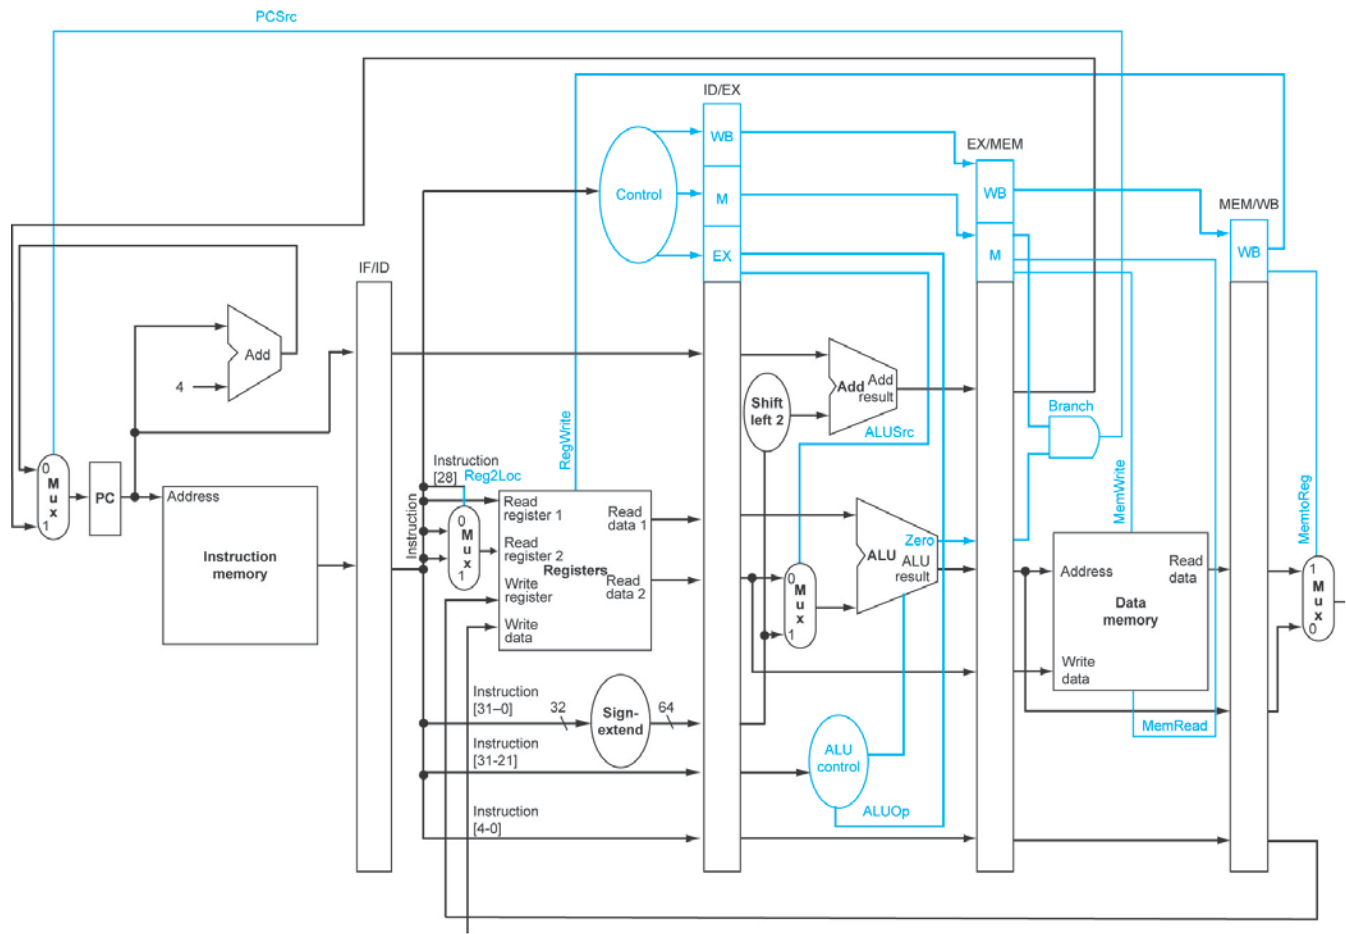

Figure 1. Five-stage Pipeline LEV8 (from textbook).
LEGLite-Pipe is pipelined version of LEGLite-Single, as described in Homework 6. It has five pipeline stages just as the pipelined LEGv8 in Chapter 4 in the textbook as shown in Figure 1. This project is to design this computer using verilog and to implement it in an FPGA. You can use parts from LEGLite-Single (homework 6) including Parts.V, IM1.V, and IM2.V.
- Draw a block diagram of your computer. It should be similar to Figure 1 but for LEGLite-Pipe0.